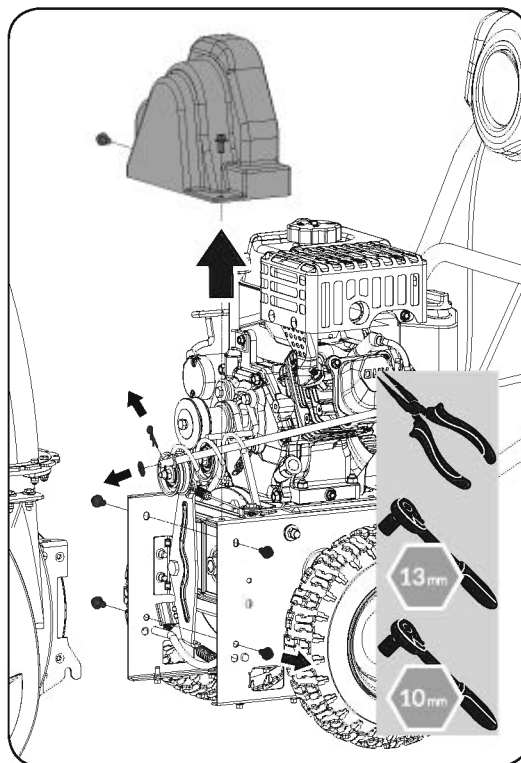

Figure 17c
5. Remove the screws securing auger housing to the frame (two on each side). Tip auger housing and frame. (See **Figure 17c**)